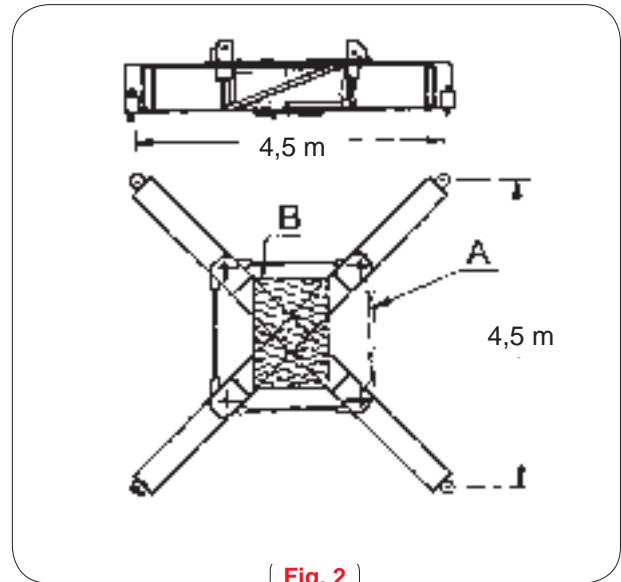

Fig. 2
- 2 Remove transport fixing plates and open both arms simultaneously, (to avoid imbalance and possible toppling of base) and immediately position braces A and B. (Fig. 2).
- 3 Fit the con-rods. (B) (Fig. 2).